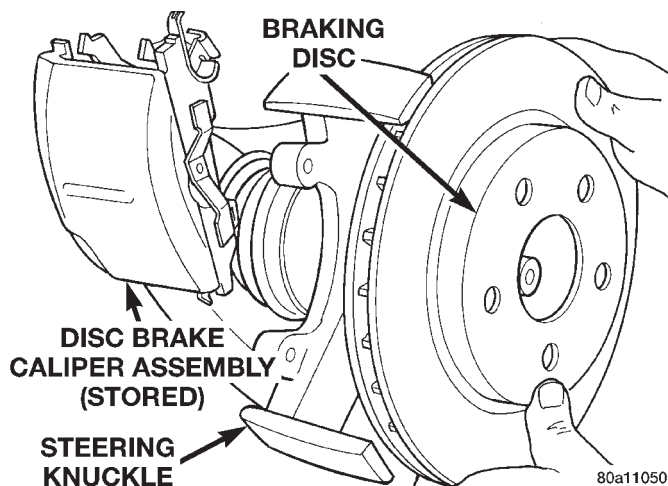

Fig. 50 Removing / Installing Brake Rotor
(7) Remove the brake rotor from the front hub (Fig. 50).
(1) Completely retract caliper piston back into piston bore of caliper assembly. This is required for caliper installation with new brake shoe assemblies.
(2) Lubricate both steering knuckle abutments with a liberal amount of Mopar® Multipurpose Lubricant, or equivalent.
(3) Install the front rotor on the hub, making sure it is squarely seated on face of hub (Fig. 50).
(4) Remove the protective paper from the noise suppression gasket on both the inner and outer brake shoe assemblies (if equipped).